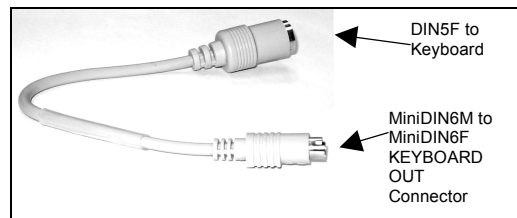

Figure 5-16 The Keyboard Out adapter cable
- Keyboard Out adapter cable. See Figure 5-16 below.